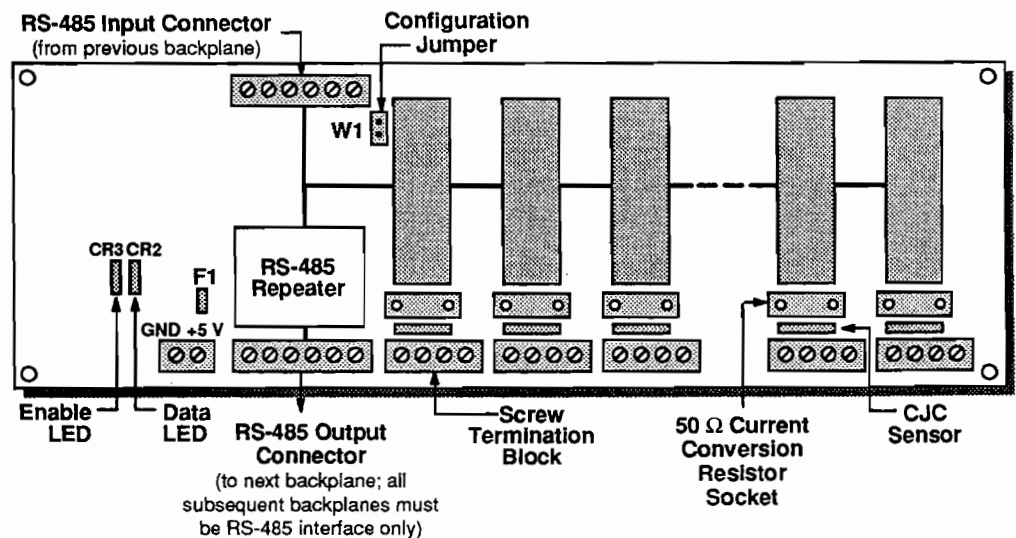

Figure 1-8. 6BP16-1 Backplane
- **6BP16-1 Backplane** - The 6BP16-1 backplane, shown in Figure 1-8, is a 16-channel backplane. It has two RS-485 connectors, one for connecting to the previous 6B Series backplane or 6B50 digital I/O board in a network and one for connecting to the next backplane or board in the network. It also has an RS-485 repeater that allows you to connect the backplane to another backplane or board at a distance of up to 4000 feet.
Note: The 6BP16-1 INPUT and OUTPUT connections (shown in Figure 1-8), may NOT be interchanged when wiring a 6B Series system... in the event they are interchanged, the 6BP16-1 and subsequent 6B backplane boards will not respond – however, no damage will occur to the boards.